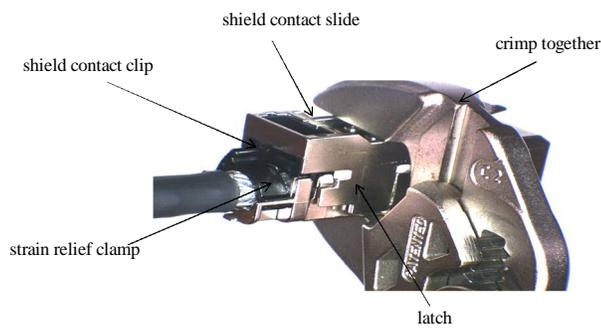

Figure 6c
- 7) Before applying strain relief clamp, position the cable so that the ATUM shrink edge is up to the wire carrier housing (Fig. 6b). Close and crimp strain relief clamp using soft jaw clamping pliers until the clamp latches into place. Trim off each wire flush with the end of each assigned wire carrier cavity (Fig.6c).